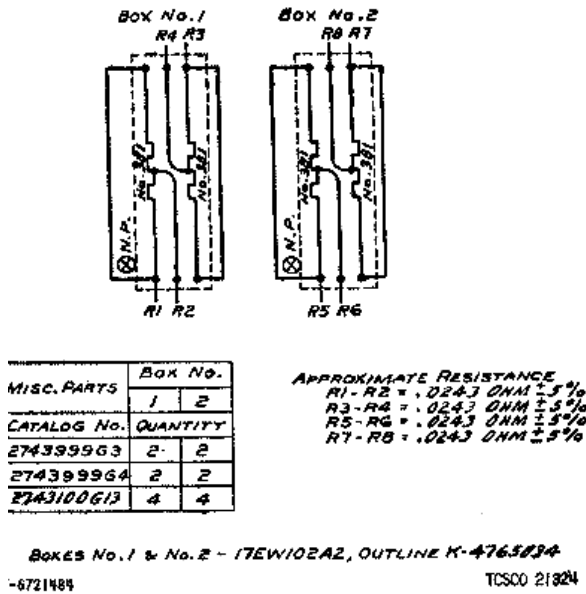

Figure 28. Connection diagram, EW resistor.
a. Various types of resistors are used for different circuits. For connections, refer to figures 28, 29, and 48.